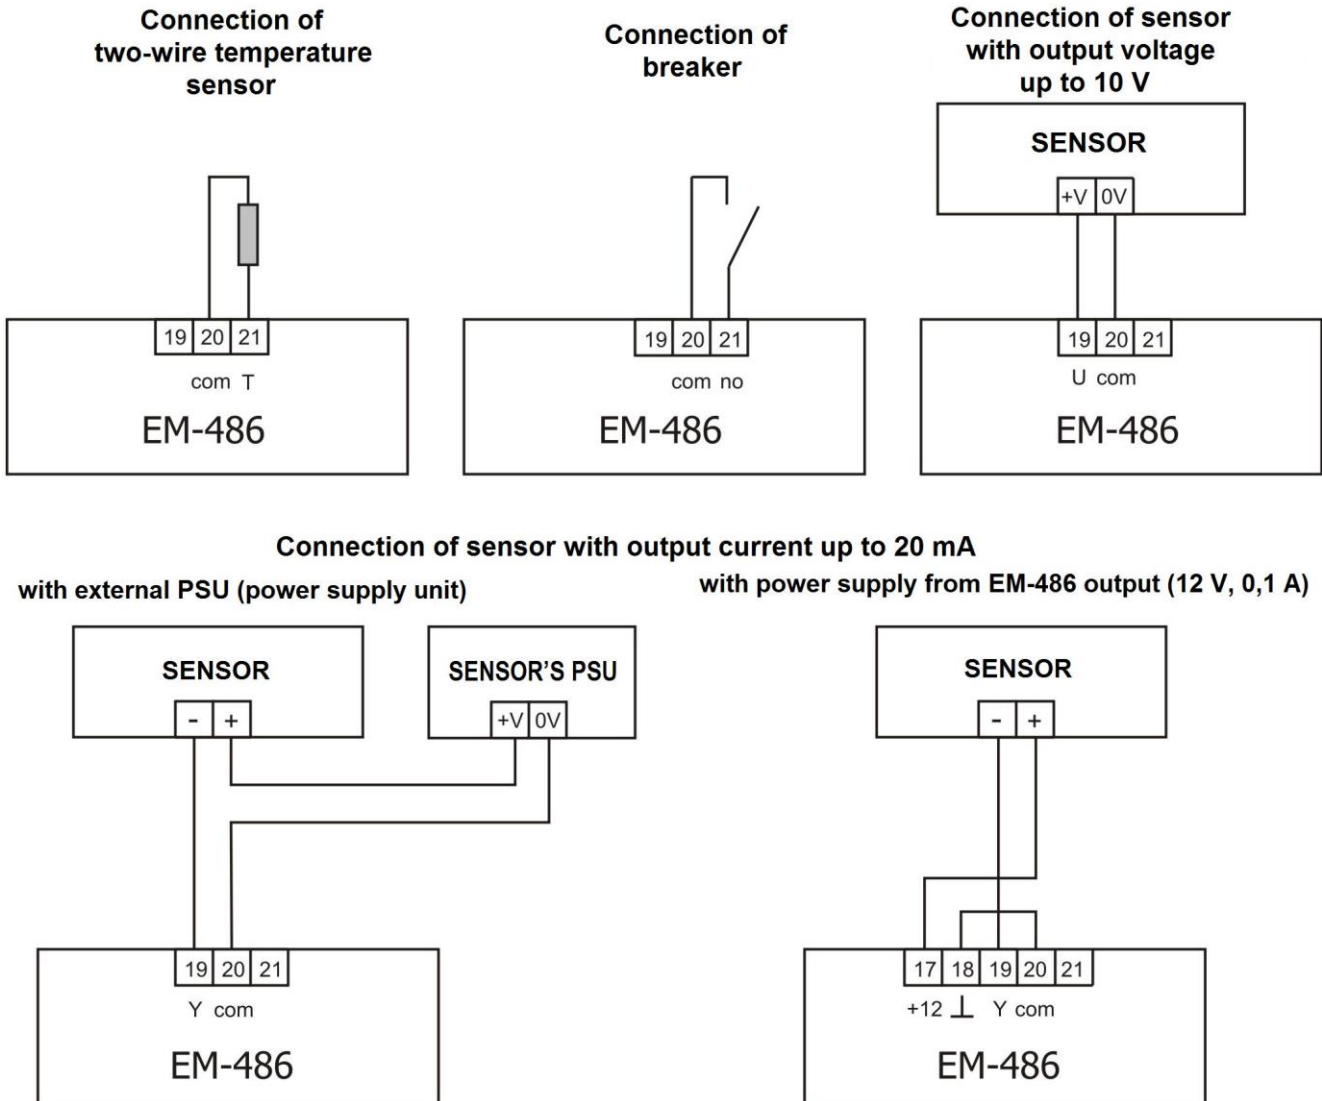

Figure 5.2 – Sensors connection diagram
5.1.3.4 In case of sensors connection to Unit universal inputs «IN». The ways of connection of different types are provided in figure 5.2.